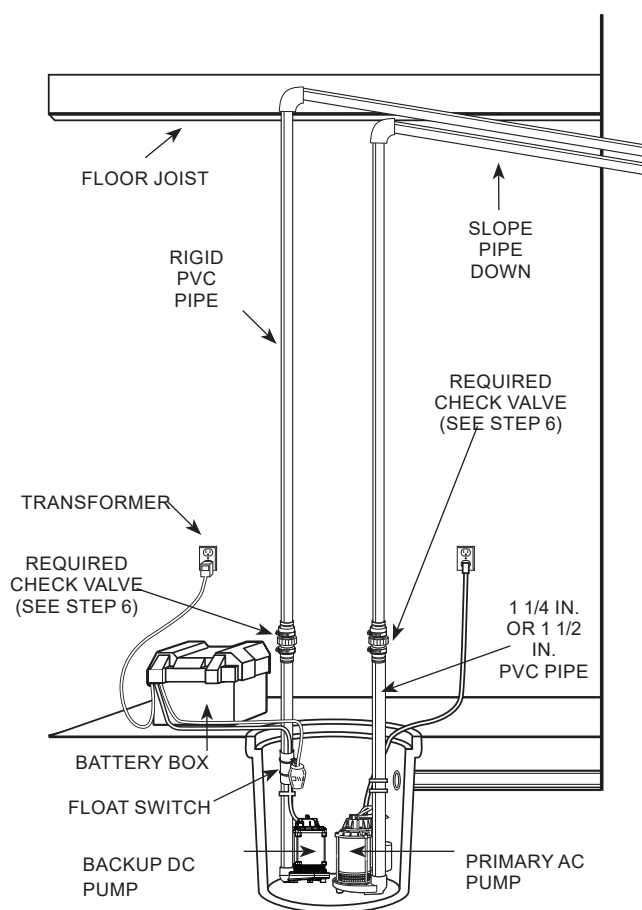

Figure 1- Method 1
**NOTE:** Check valves can be placed directly in the pump discharge if desired. However, for ease of disassembly, it is recommended that check valves be placed above the sump as shown in Figure 1.